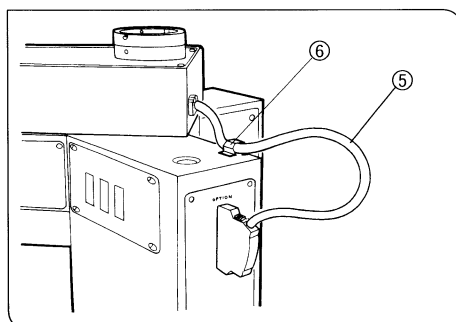

Fig. 61
5. Attach the cable stopper ⑥ as shown in the diagram, and insert the communication cable ⑤ into it. Then, connect the communication cable ⑤ to the OPTION connector on the microscope frame. (Fig. 61)